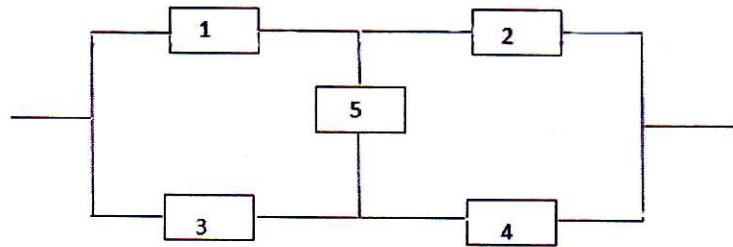

Fig. 1
- Q3) a)** Find the reliability of a system shown in the figure 1 by using conditional probability method. Assume that the components 1, 2, 3, 4 are identical and independent with the reliability value of 0.89 and component 5 has reliability of 0.8. [8]